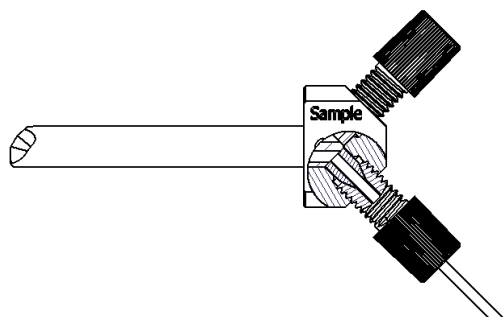

Figure 3 (Housing partially sectioned)
3. Insert Ferrule end of Adaptor tube into the Housing port (Marked 'G') then tighten the Ratchet nut. The Ferrule is now sealed against the Nebulizer Body – Refer figure 3